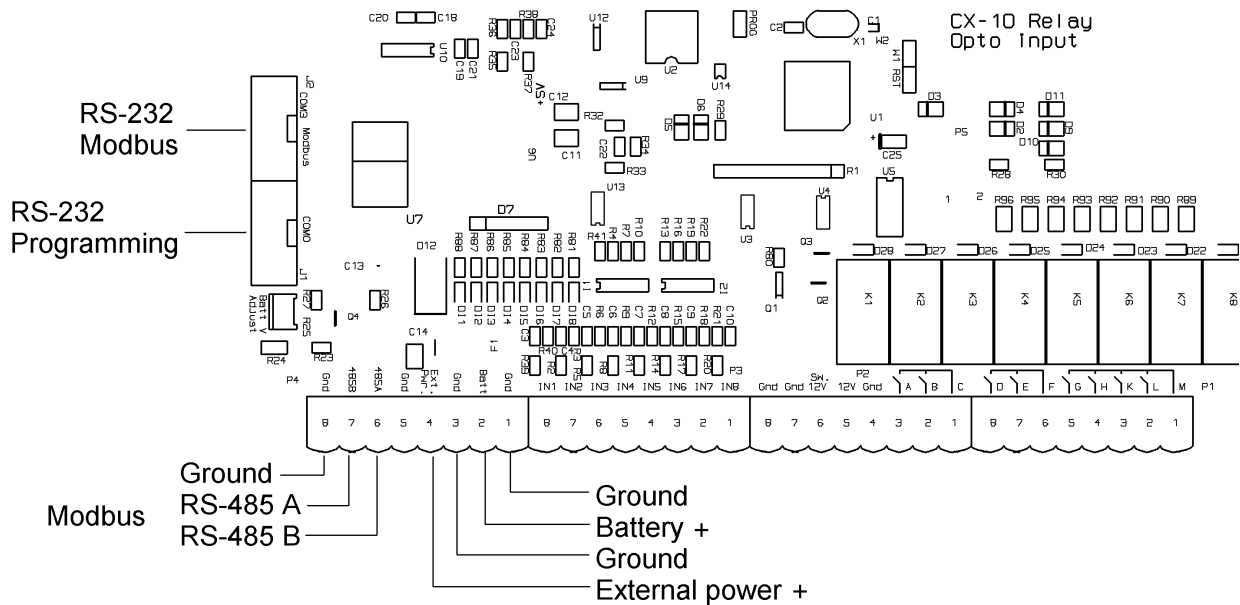

Figure 2-1 Power and serial connection
Connect your external power to the terminals marked "Ext Pwr." and "Gnd" on the board. External power "+" supply goes to "Ext Pwr." terminal. See Figure 2-1 for location.
Connect the VTC-9 serial cable to the modbus port as shown above in Figure 2-1. Note that the key notch on the VTC-9 cable faces to the inside of the board.
1. Connect the VTC-9 serial cable to the programming port as shown above in Figure 2-1. Note that the key notch on the VTC-9 cable faces to the inside of the board.